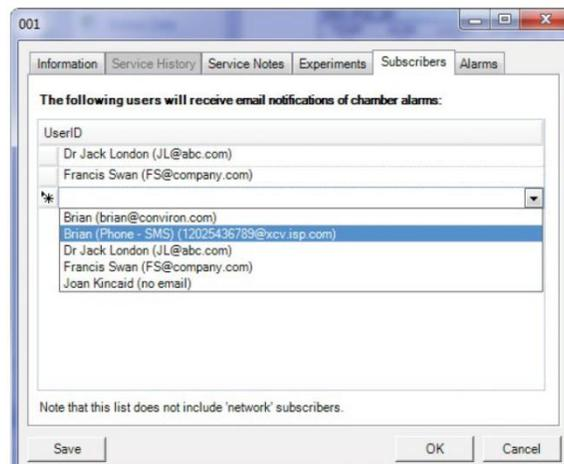

Figure 6-3 Chamber Subscriber
4. Click on the drop-down menu to display the current user list, as seen in Figure 6-3.